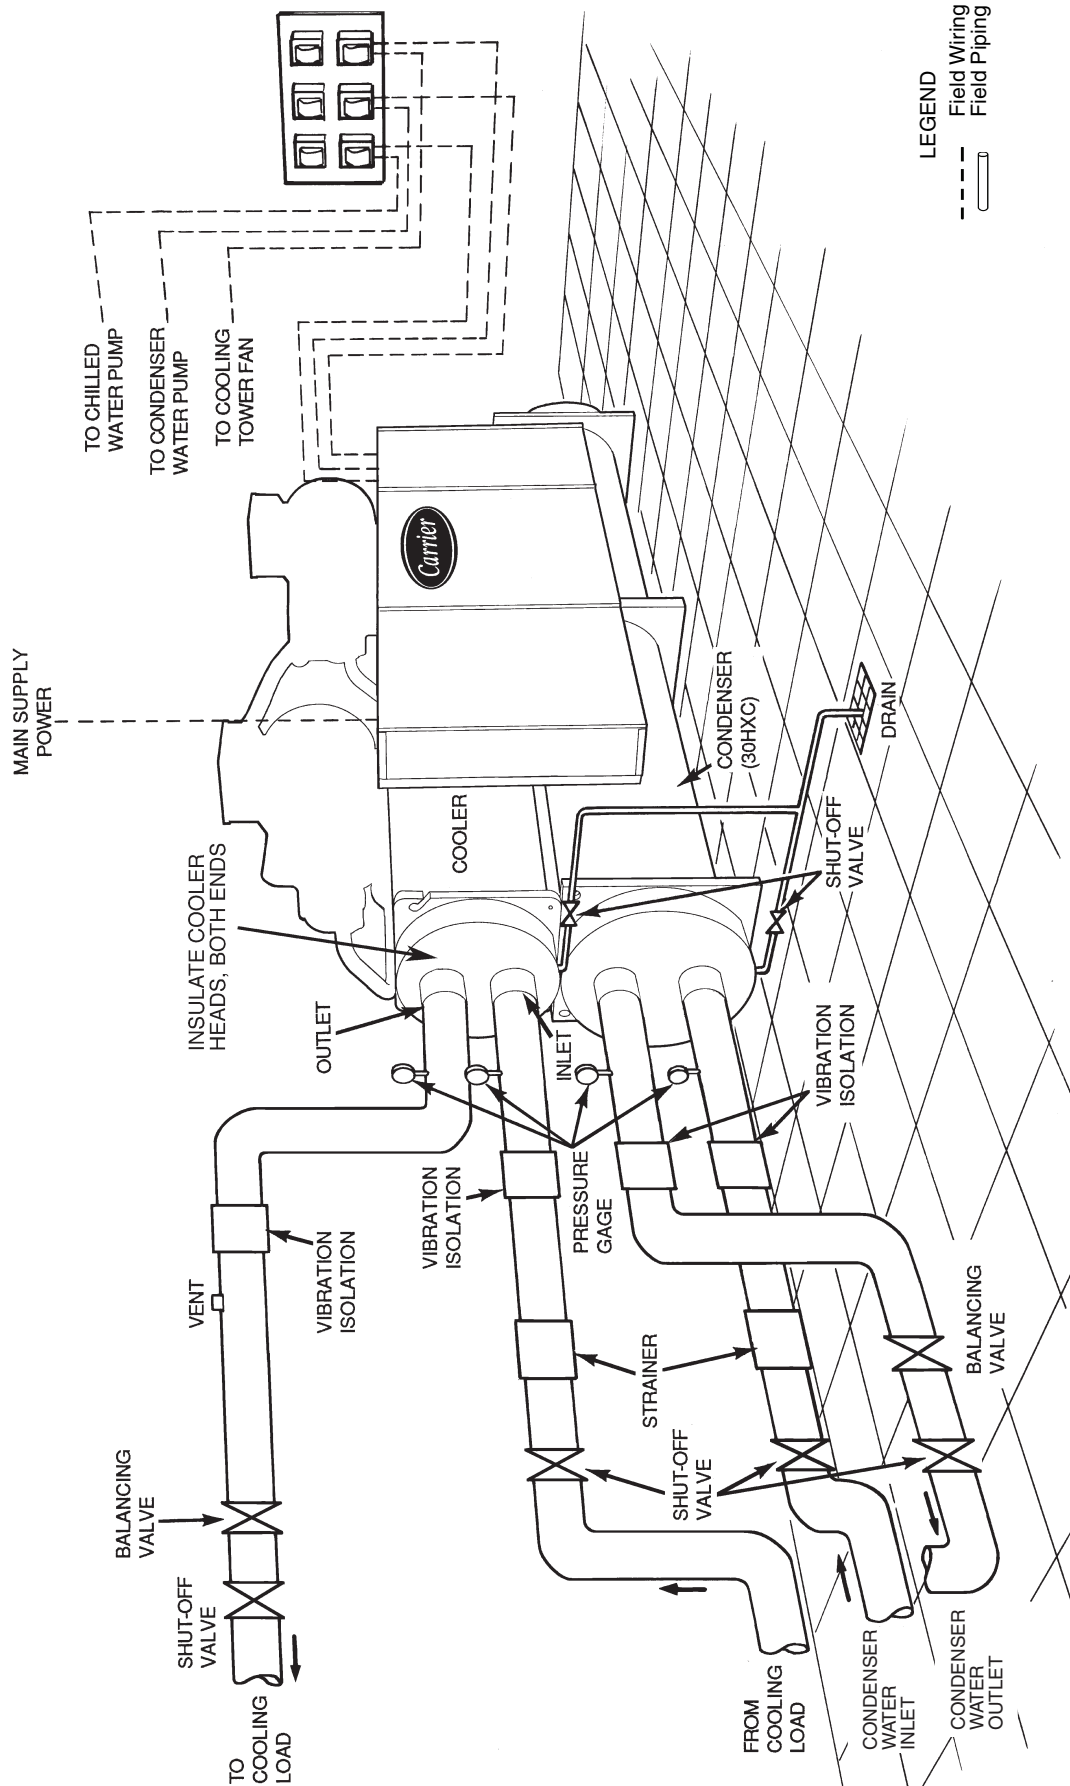

Fig. 13 — Typical Cooler (30HXA, HXC) and Condenser (30HXC Only) Piping and Wiring
Step 3 — Piping Connections — See Fig. 13, 14A, and 14B for typical piping applications.
COOLER FLUID, VENT, AND DRAIN — The inlet (return) fluid connection is always the lower of the 2 cooler connections. See Fig. 13 for locations. A screen strainer with a minimum of 20 mesh must be installed ahead of the cooler inlet (within 10 ft [3.05 m]) to prevent debris from damaging internal tubes of the cooler. Outlet (supply) fluid connection is the upper connection of the 2 cooler connections.
Locate valves in return and supply fluid lines as close to the chiller as possible. Locate air vent at highest point of the cooler fluid system. See Fig. 13.